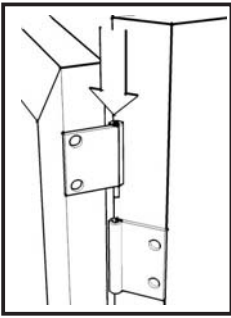

Figure 2
Attach Doors (K) and (L) by sliding the door lift hinges into the side panels lift hinges. (see Figure 2)